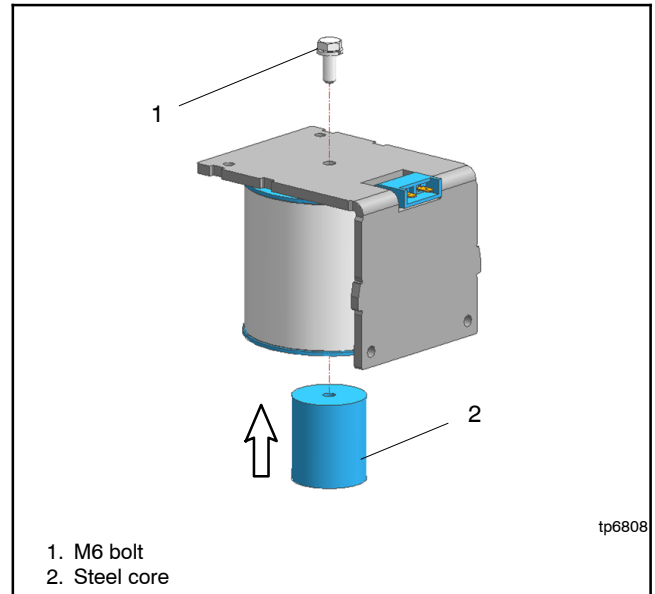

Figure 7-73 Create Coil Assembly
2. Insert the steel core into the coil and tighten the M6 bolt to create the coil assembly. Tightening torque for the M6 bolt: 6 Nm. See Figure 7-73.